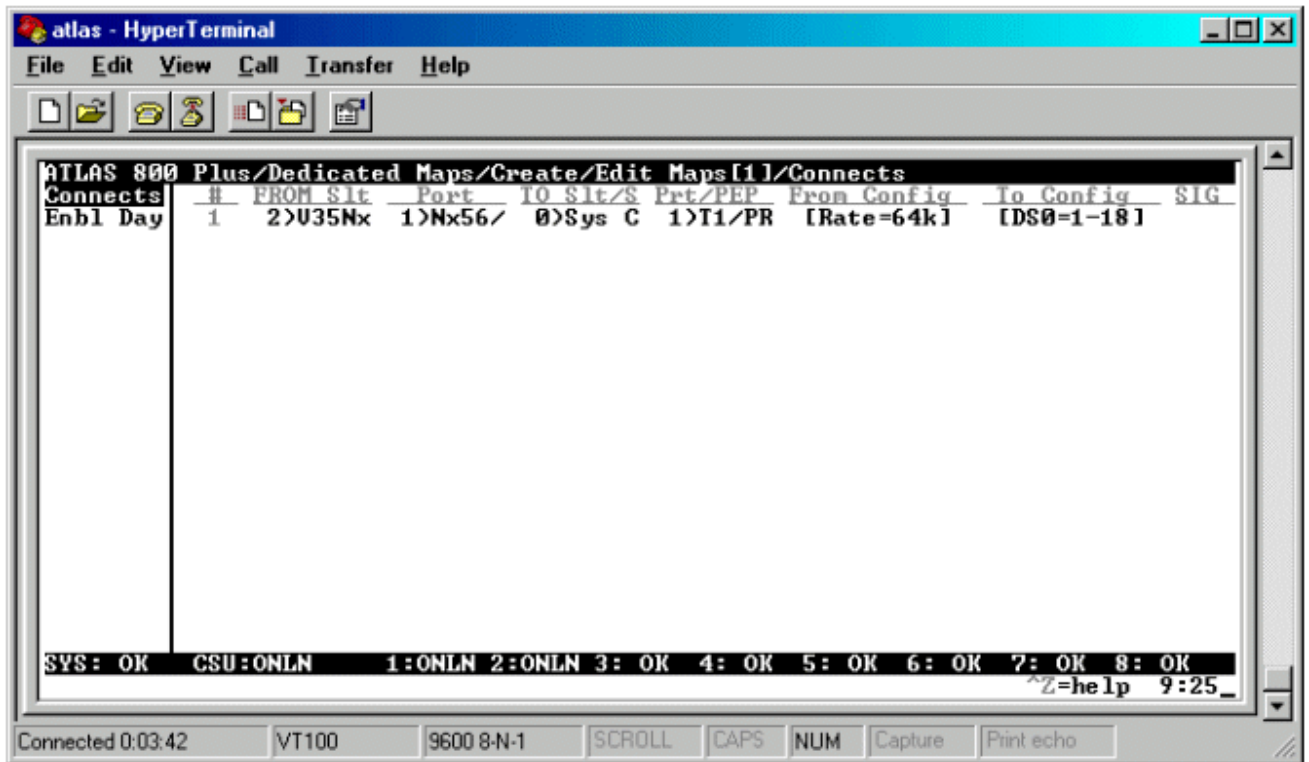

Figure 2
4. Press enter on **To Config** and another menu will be displayed. Press enter on **DSO Selection** and enter the range of channels to be mapped on that T1; for example, channels one through eighteen would be represented as 1-18. Press escape to return to the **Connects** menu. Figure 2 shows how the **Connects** menu should appear once configured.